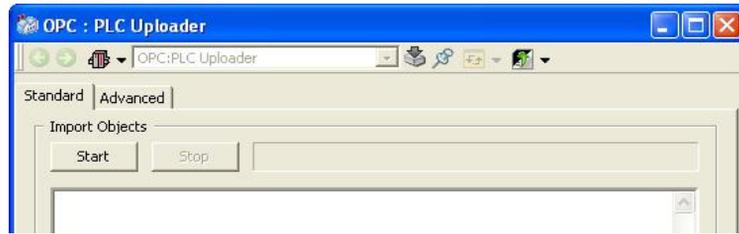

Figure 124. Start of PLC Uploader
1. Click **Start** to initiate an unconditional Retrieve (OPC server data collection) and Append (creating PLC Connect aspect objects) operation. Refer to Figure 124.